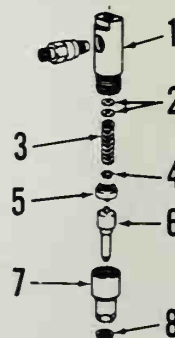

Fig. F1-5 - Exploded view of injector.
Reverse removal procedure to reinstall injector. Install a new asbestos washer (8 - Fig. F1-5). Tighten injector retainer plate nuts to 5-6 N·m.
Opening pressure should be 20.0 MPa. Opening pressure is adjusted by varying thickness of shims (2 - Fig. F1-5).
OVERHAUL. Clamp injector body (1 - Fig. F1-5) in a vise with nozzle pointing upward, unscrew nozzle holder nut (7), then remove injector components shown in Fig. F1-5. Thoroughly clean all parts in a suitable solvent. Clean inside orifice of nozzle tip with a wooden cleaning stick. When reassembling injector,